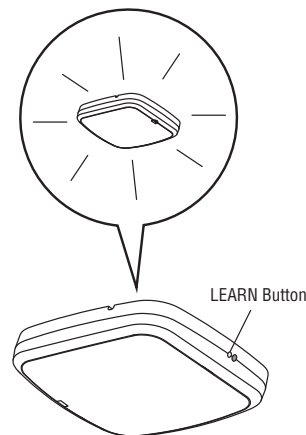

Figure 2
1. Press the LEARN button on the smart light until the green LED turns ON (Figure 2).